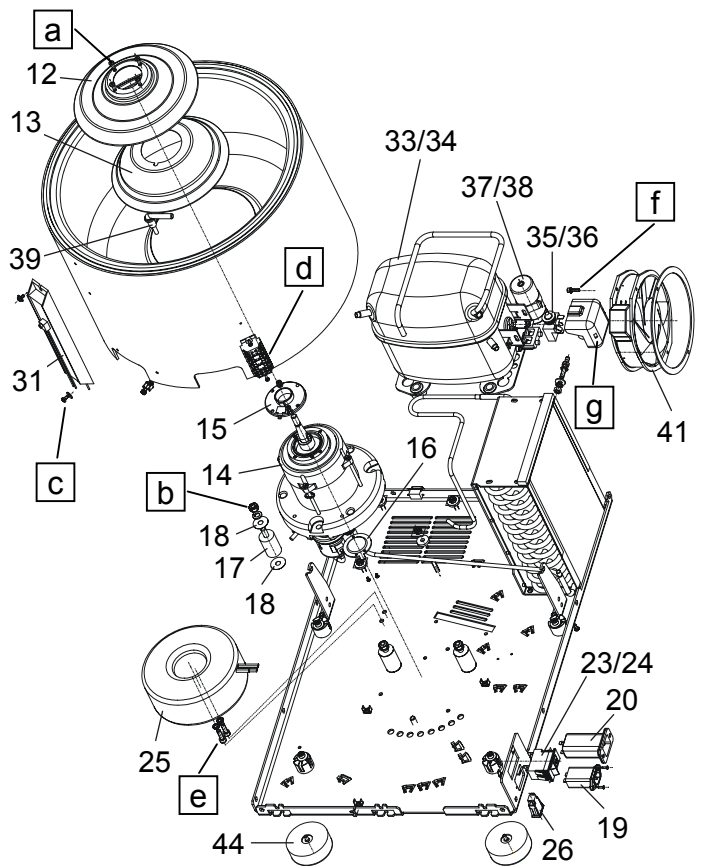

Fig. 8
- Undo the 4 screws (pg. 78, Fig. 4, a ; pg. 79, Fig. 8, a) on the motor cover and remove the motor cover.
- In centrifuges with cooling, remove the rubber packing (pg. 79, Fig. 8, item 13) between the motor cover and the centrifuge chamber.
- Unscrew the speed sensor (pg. 78, Fig. 4, item 15 ; pg. 79, Fig. 8, item 15) from the upper end plate of the motor (2 screws) and place it in the centrifuge chamber.
- Unscrew the 3 nuts (pg. 78, Fig. 4, b ; pg. 79, Fig. 8, b) on the lower end plate of the motor.
- Unscrew the speed sensor / imbalance sensor (pg. 78, Fig. 4, item 16 ; pg. 79, Fig. 8, item 16) at the bottom of the motor (3 screws).
While mounting the rubber-metal bearings, make sure that there is an anti-twist device (pg. 78, Fig. 4, item 18 ; pg. 79, Fig. 8, item 18) on both sides of the bearing to prevent it from turning.
- Unscrew the speed sensor (pg. 78, Fig. 4, item 15 ; pg. 79, Fig. 8, item 15) from the upper end plate of the motor (2 screws).